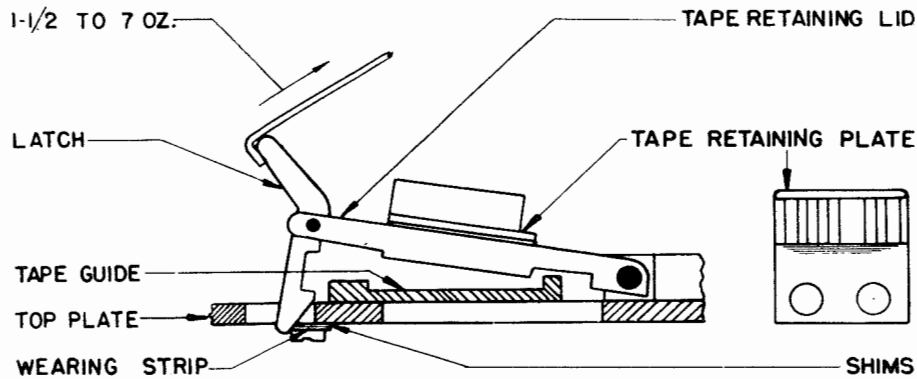

Figure 23
3.04 Retaining Lid Latch: With the tape retaining lid held against the front guide rail on the tape-guide plate, the retaining lid latch shall operate freely under its own spring tension. The latch shall not close freely under these conditions when a 0.003-inch thickness gauge is placed between the retaining lid and the front guide rail. See Figure 23 for location of parts.